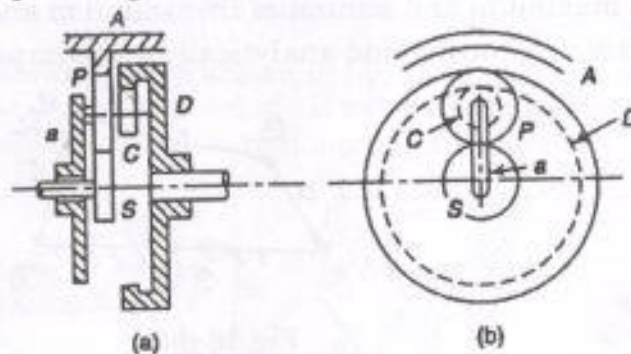

Fig.14 (b)
b) In a reduction gear shown in Fig. 14 (b), the input S has 24 teeth. P and C constitute a compound planet having 30 and 18 teeth respectively. If all the gears are of same pitch, find the ratio of the reduction gear i.e., ratio of speed of gear S to speed of gear D. Assume A to be fixed. (13)